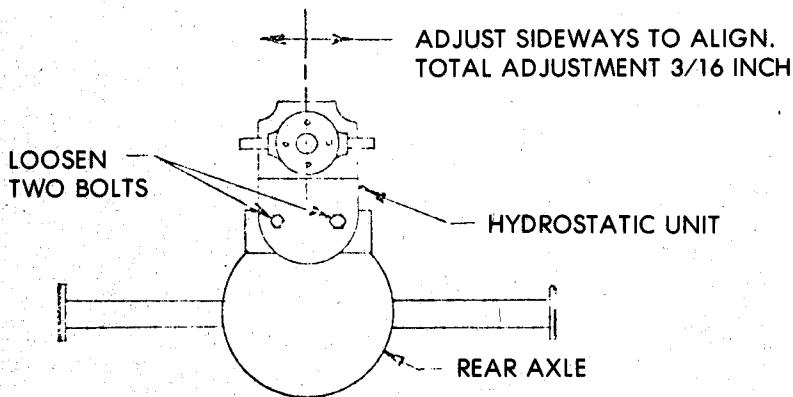

FIGURE 2
2. P.T.O. shaft to one side. Adjust as follows: Loosen the two bolts securing the hydrostatic unit to the rear axle and align P.T.O. shaft. Retighten the bolts. See Figure 2.